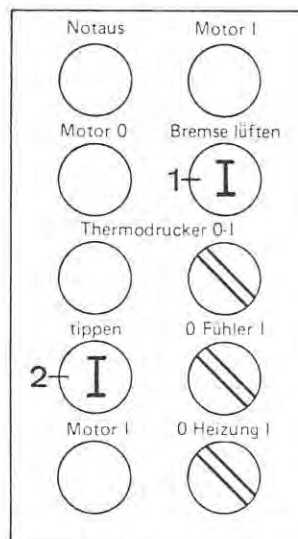
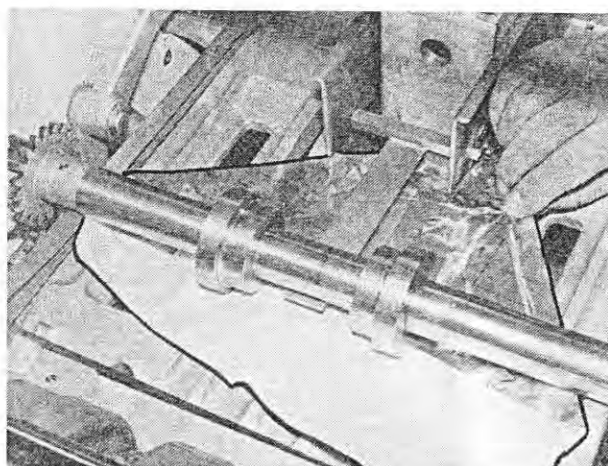

Fig. 106
Fig. 107
20. Vent the brake using the button (Figure 106/1). Operate the machine by pressing the „Tip button (Figure 106/2) until the folded wrapper has been cut off and is in front of the accelerating rollers (Figure 107).
21. Remove the wrapper cut off (Figure 107).